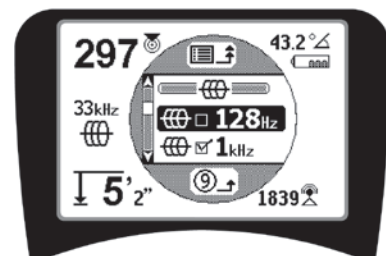

Figure 14: Highlighting a Desired Frequency (128 Hz)
2. Using the Up and Down Keys, highlight the frequency desired (Figure 14). In this example, the operator is activating a 128 Hz frequency.